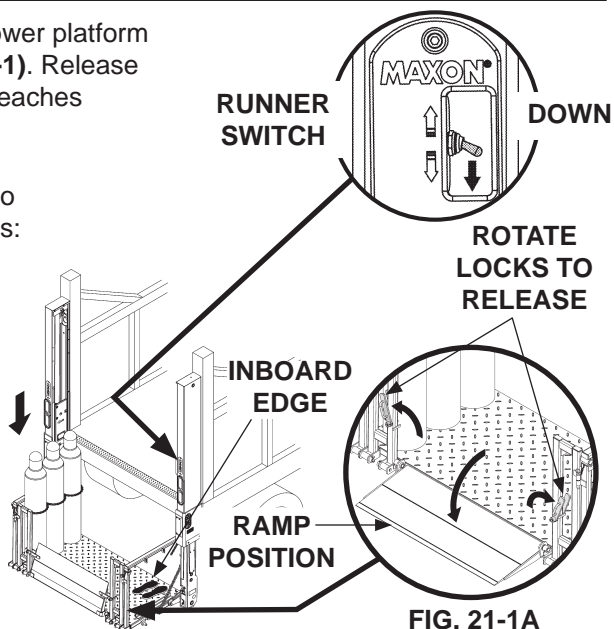

FIG. 21-1
1. Use runner switch to lower platform to the ground (**FIG. 21-1**). Release switch when platform reaches ground level.